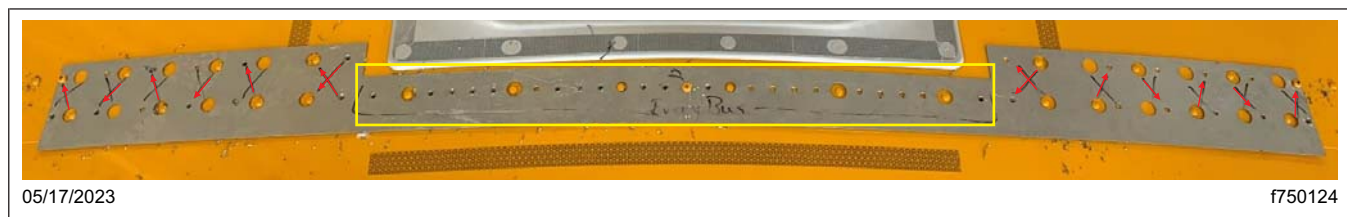

Fig. 20, Identifying the Marking Locations
Do not mark every hole on the fixture. Mark only the holes identified by the arrows and the yellow rectangle in **Fig. 20.**
30. Once the fixture is secured in place, locate the rivets, and follow the arrows to identify the marking locations. See **Fig. 20**. Mark all pilot holes falling in the region identified by the yellow rectangle. Use a Sharpie marker to mark the pilot holes for drilling the holes in the roof.